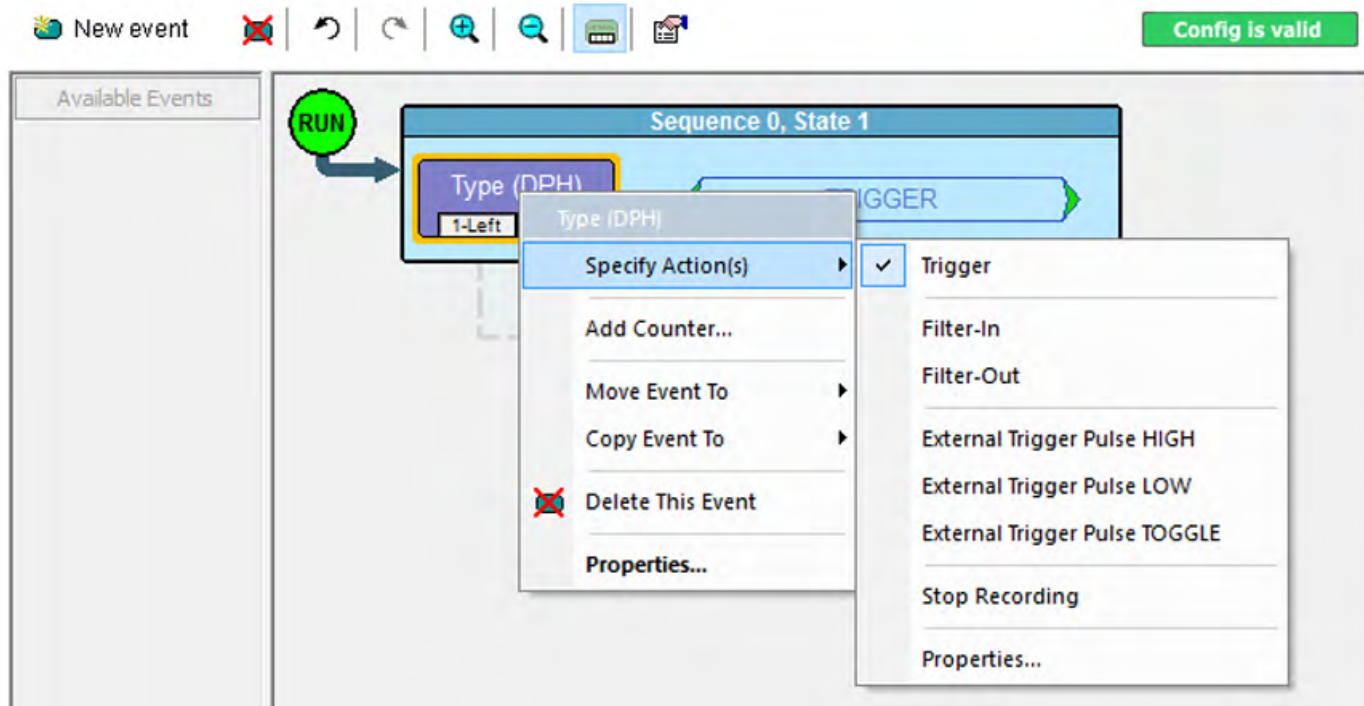

Figure 10.30: Assigning Action to Event Button.
1. Right-click the **Event** button to display a pop-up menu (see Figure 10.30 on page 374.)